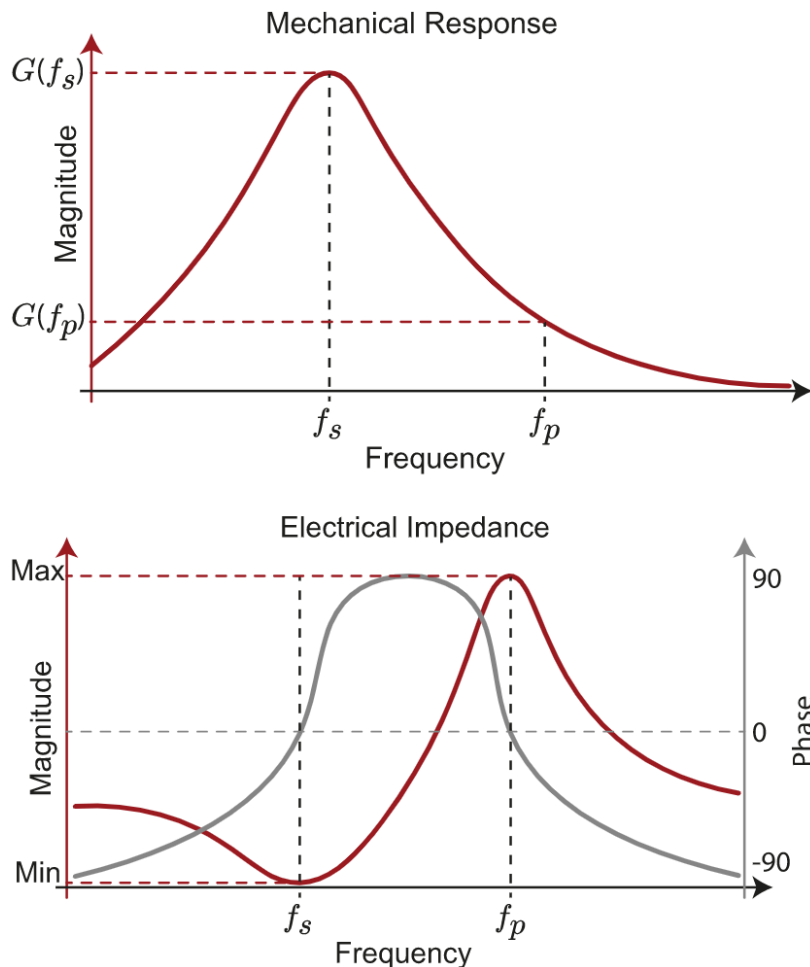

Figure 4. Electrical and mechanical frequency response of an ultrasonic transducer
The most important concept to understand is the relationship between the electrical and mechanical impedance response of a transducer. Figure 4 plots the mechanical and electrical frequency response of an ultrasonic transducer.
The resonance tracking system of the PDUS210 is illustrated Figure 4. The phase detector (M) measures the impedance phase angle between the primary voltage and current. The phase controller $C_{\theta}(s)$ varies the drive frequency to maintain a constant phase set point θ_{ref} , which is usually equal to zero.